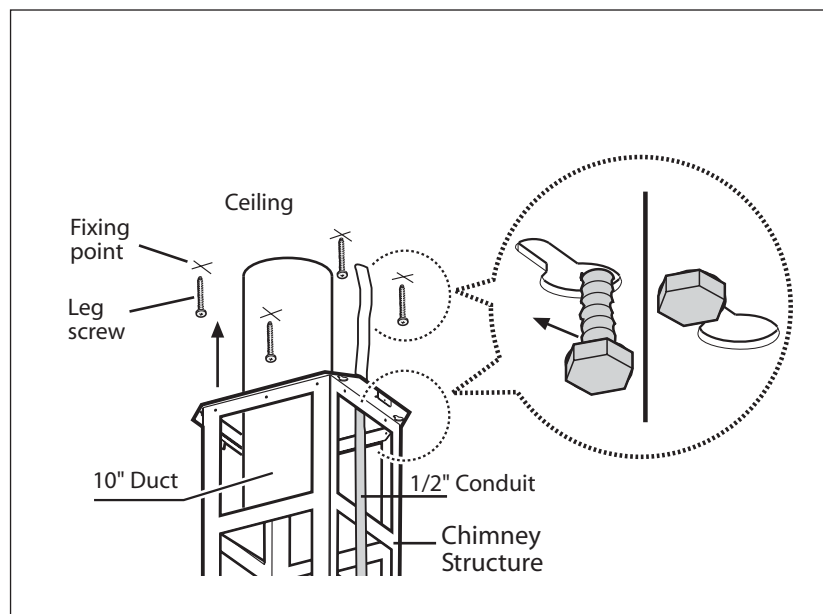

FIG.4
- b. Screw the 4 lag screws provided (see Fig. 4, do not tighten completely).
- c. Attach mounting structure to joists with the 4 lag screws provided. (see Fig. 4, keep 10" duct inside structure) .
- d. Tighten the 4 lag screws, see Fig. 4.